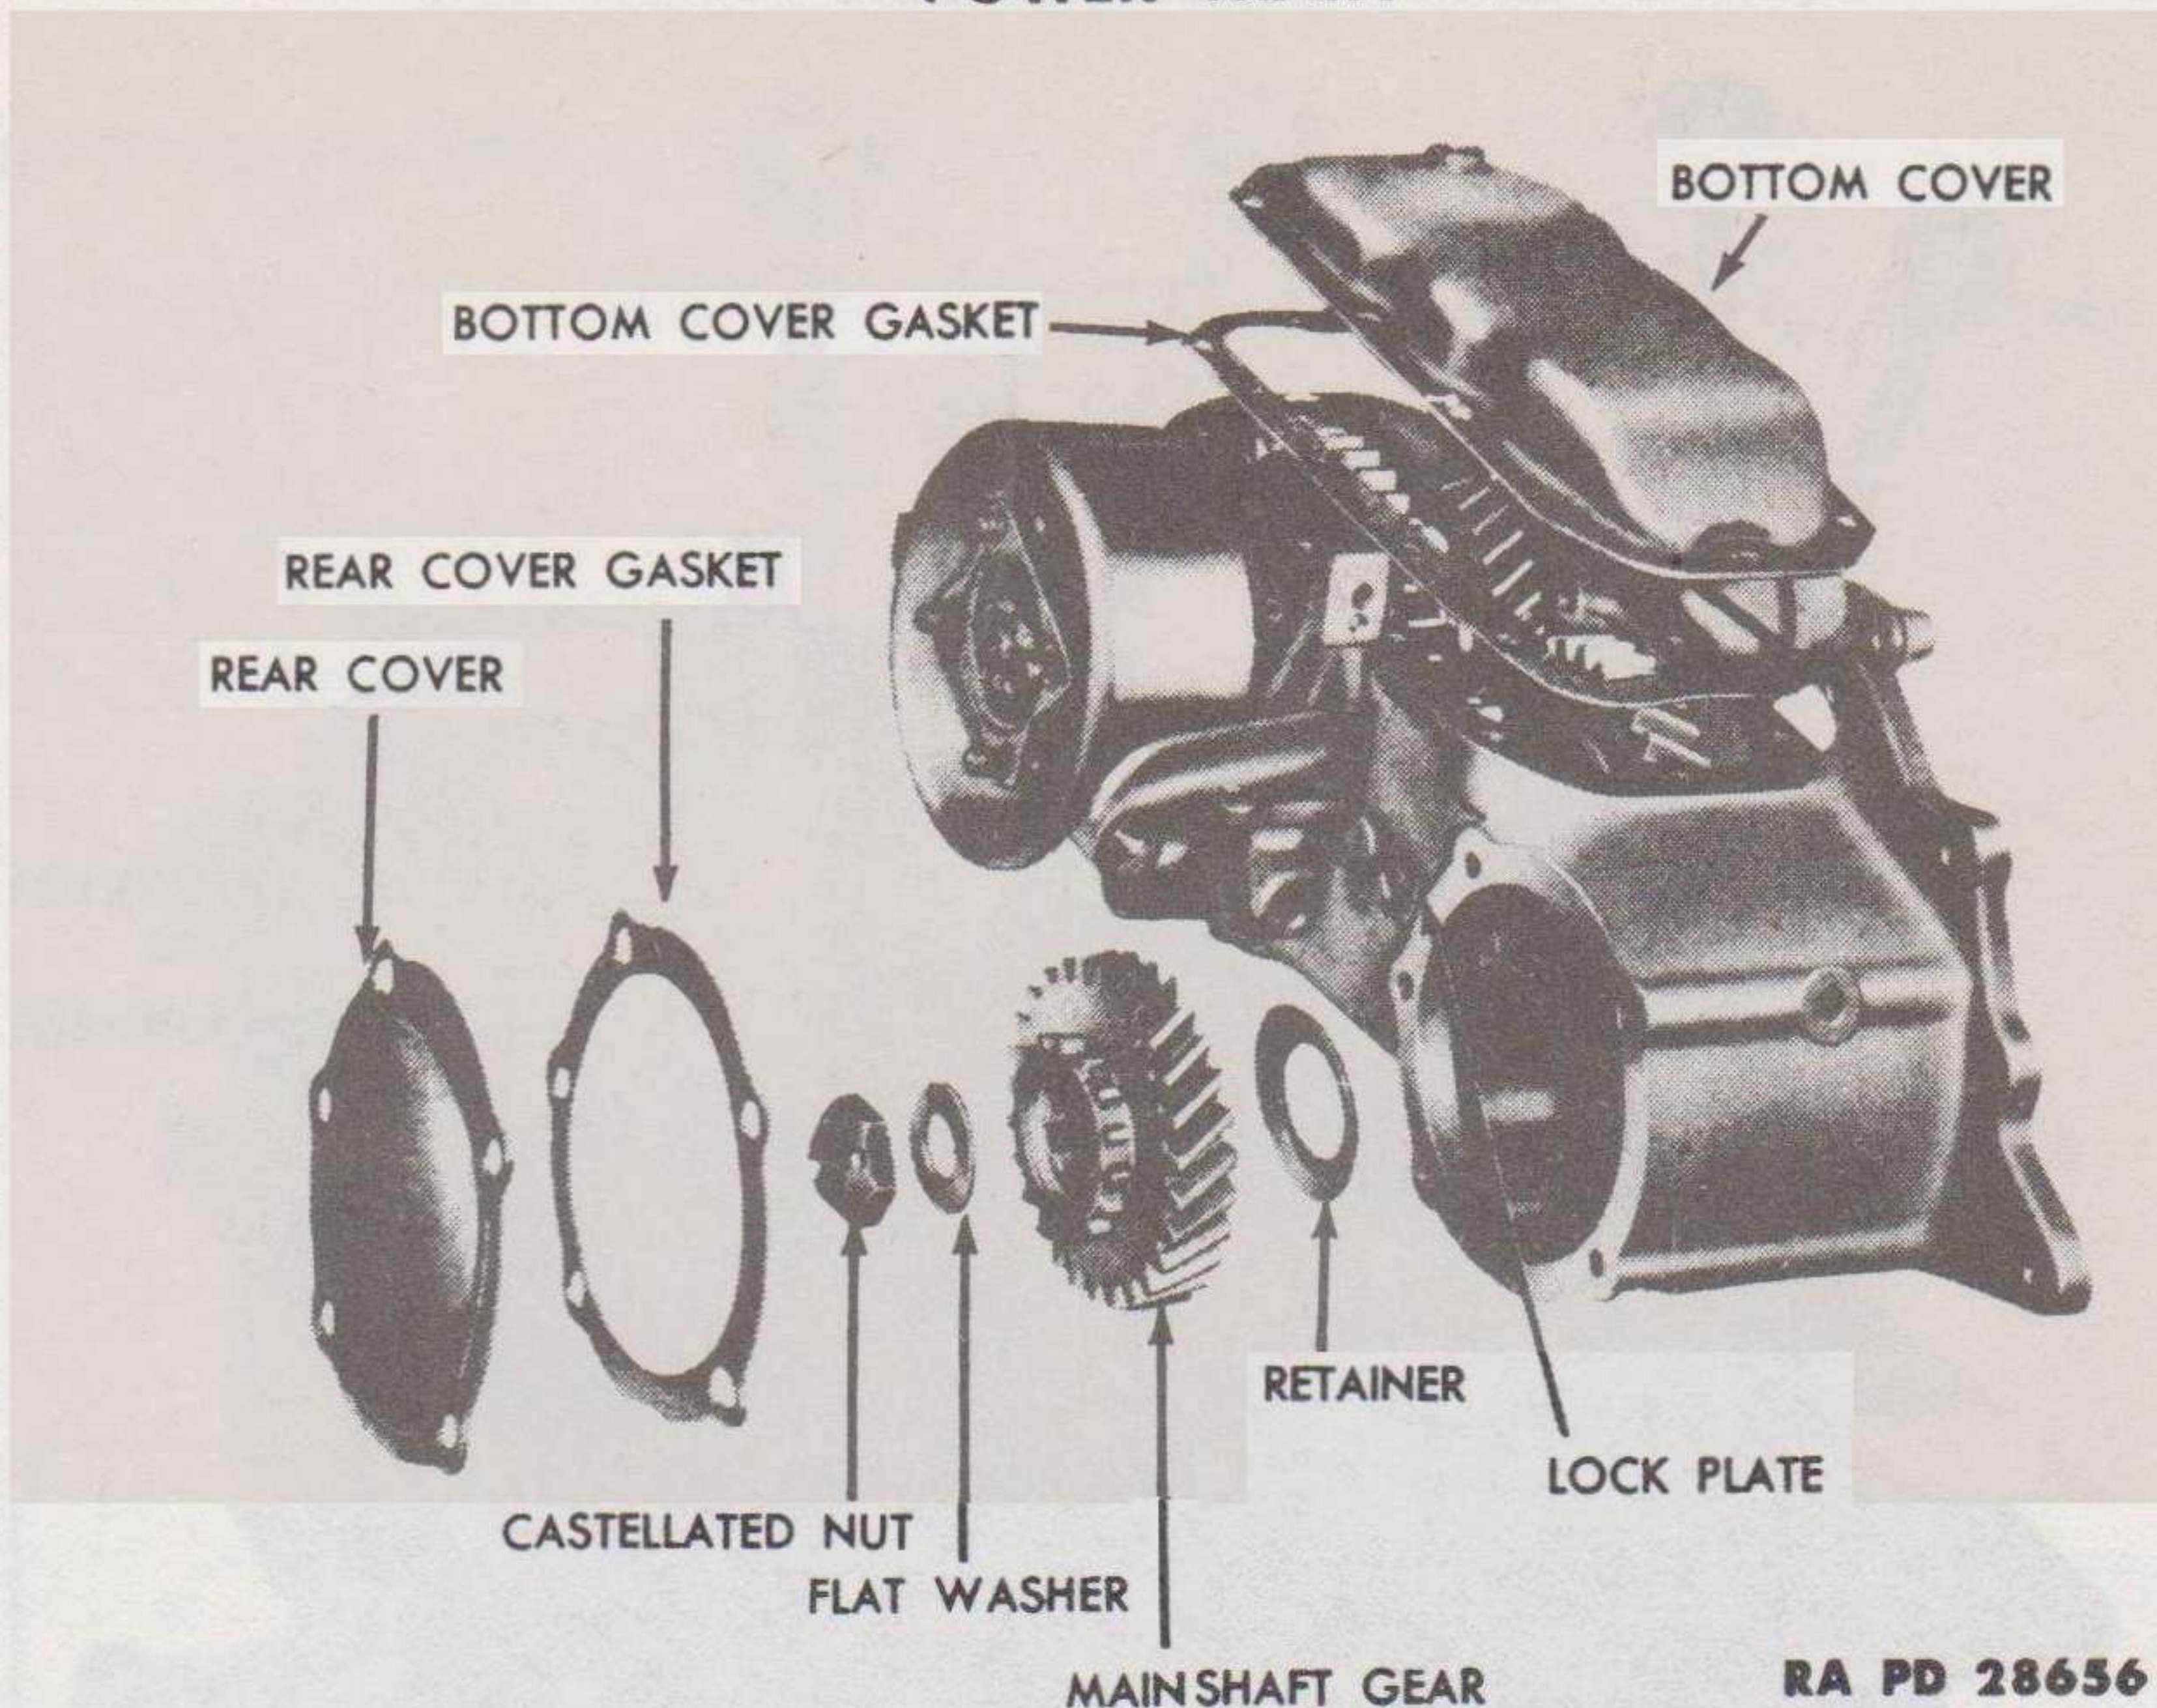

Figure 27 — Bottom Cover and Mainshaft Gear — Exploded View
e. **Remove Mainshaft Gear (fig. 27).** Through the opening at the rear of the transfer case, remove the castellated nut that secures the mainshaft gear to the transmission mainshaft. Remove the flat washer mainshaft gear and oil retainer.
(1) **TRANSFER CASE ASSEMBLY** (fig. 27). Inspect the transfer case housing for cracks or damage of any kind. Inspect the bottom and rear cover for bent or damaged condition. Replace the gaskets on the bottom and rear covers.
g. **Install Bottom Cover to Transfer Case (fig. 27).** Install a new gasket in position on the transfer case. Place the bottom cover on the transfer case. Install the cap screws that secure the bottom cover to the transfer case.
b. **Install Mainshaft Gear** (fig. 27). Insert the retainer and mainshaft gear on the transmission mainshaft. Install the flat washer and castellated nut that secure the mainshaft gear on the transmission mainshaft. Place a new gasket and the rear cover on the transfer case and install the cap screws that secure the cover to the case.